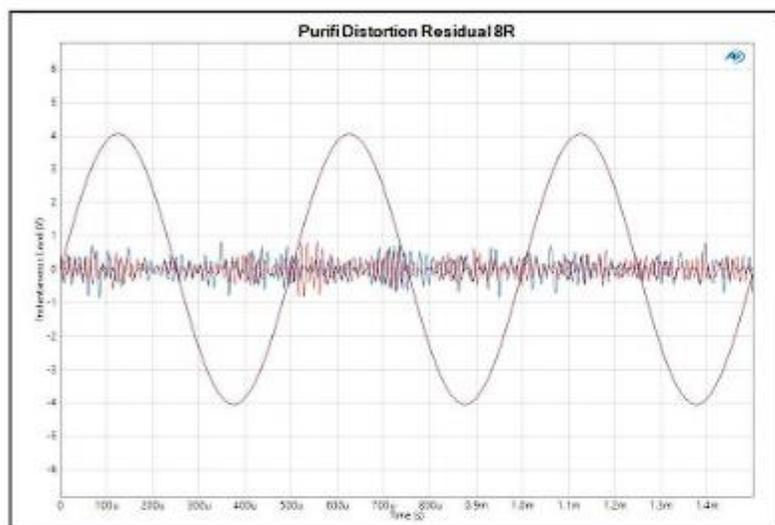

Figure 12: The Purifi’s distortion residual at low power (here magnified by 1000 times) is dominated by noise and shows no signs of typical amplifier artifacts.
**Figure 12** shows a 2.83 V sine wave at 1 kHz, along with the residual magnified by 1000. It's